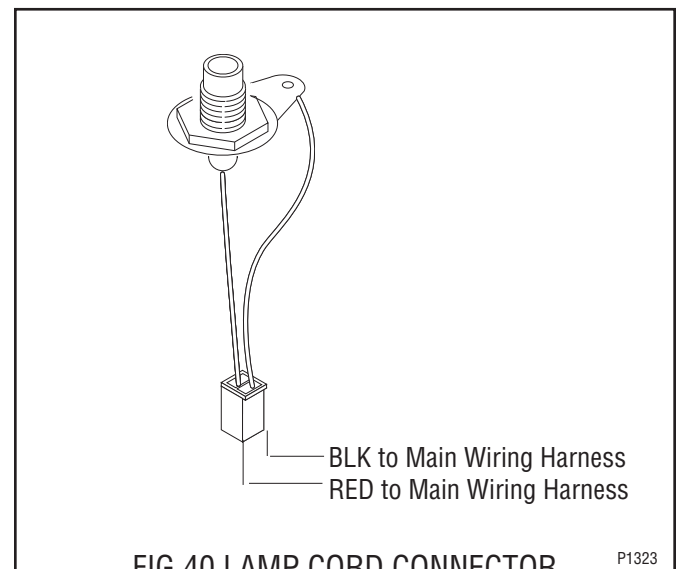

FIG. 40 LAMP CORD CONNECTOR
5. Check for continuity across the black wire pin and red wire pin of the lamp cord connector (Fig. 40). Continuity must be present when the lamp cord assembly is connected and must not be present when lamp cord assembly is disconnected from lamp cord connector.
9. Refer to Fig. 40 when reconnecting wires.